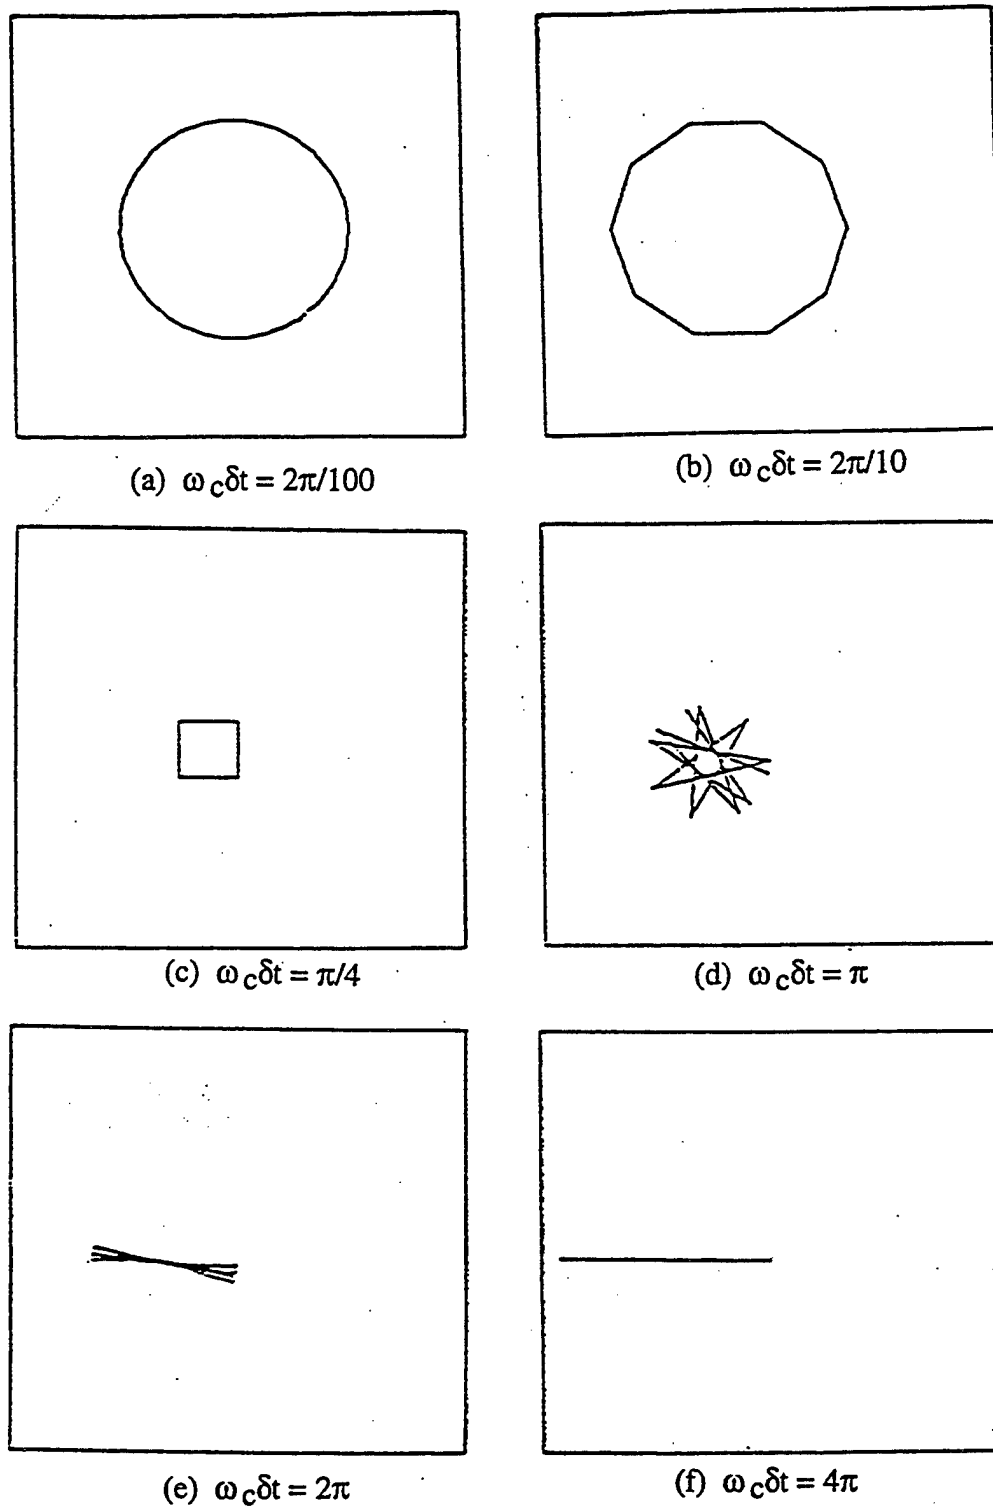

Figure 18-1. Effect of increasing Lorentz time step on gyro-orbits.
2. Figure 18-1 illustrates the deleterious effect that an excessive time step can have on particle kinematics, specifically, electron orbits in a high magnetic field. The six gyro-orbits shown have the same magnetic field and electron velocity, but are simulated with succeeding greater time steps. Case (a) exhibits excellent resolution with 100 time steps, and case (b) might be acceptable. However, case (c), with four steps, no longer resembles a circular orbit. Thereafter, the orbit becomes linear (precessing) and eventually, in the large time-step limit, simply goes back and forth as shown in case (f).